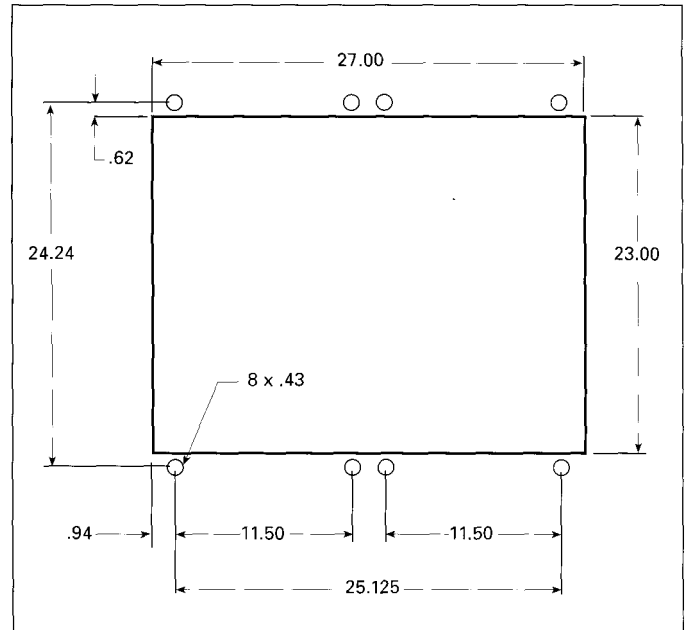

Figure 2
- K. The connect-all mounting block assemblies (Cat. No. MB9301) must be positioned in the Panelboard using the mounting support hole locations shown in Fig. 2. Fig. 2 also shows the location of the desired 27" wide, 23" high panel clearance opening behind the connect-all assemblies.